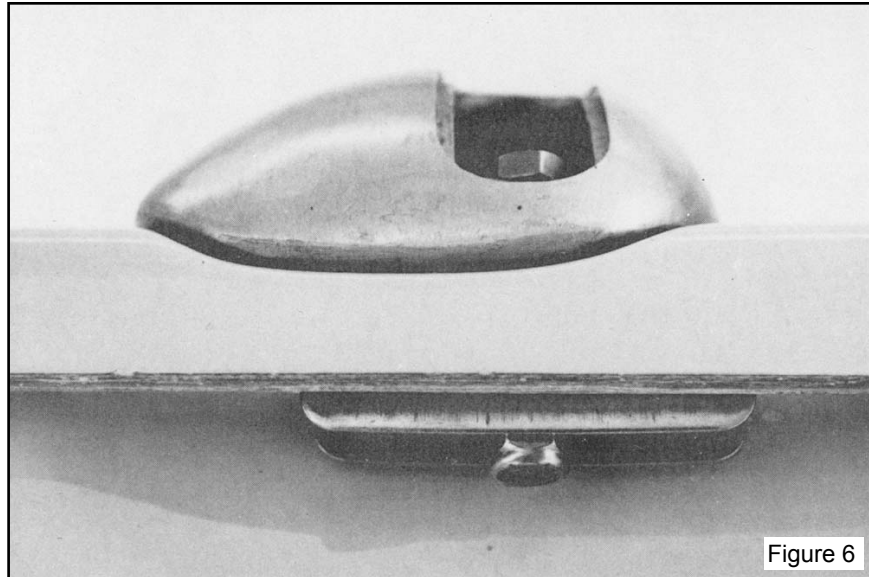

Figure 6
11. Install all four outboard bolts in the manner described in step 10. To insert the bolts in the front corner castings it will be necessary to remove the cover plates. Be careful when extracting the cover plate retaining screw. It is made of aluminum and can be galled. See Figure 6.